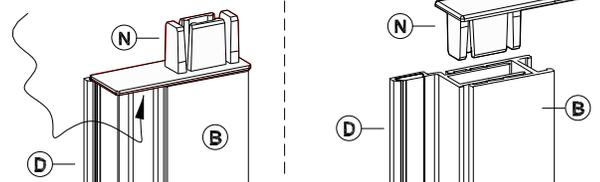

Figure 7
After all adjustments have been made, install a Jamb Cap (N) at both the hinge side and the strike side of the door as shown in exploded view - sheet 1. Trim Caps to required lengths before installing as shown in Figure 7.